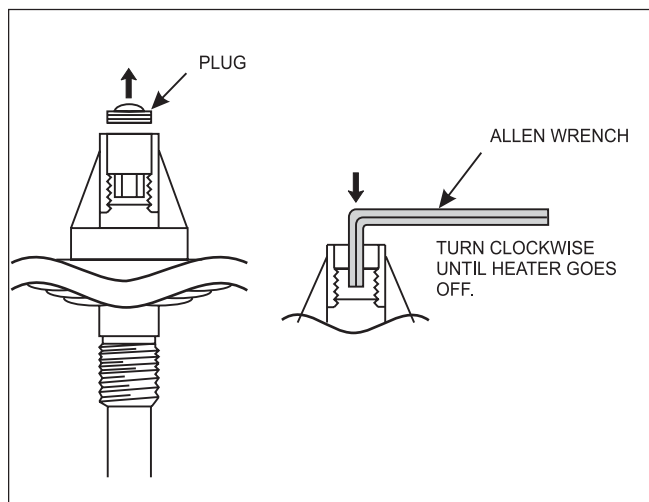

Figure 21. Pressure Switch Adjustment
- Use a 7/32 inch (5.55 mm) Allen wrench to turn the adjustment screw very slowly clockwise until the heater goes off (see Figure 21).